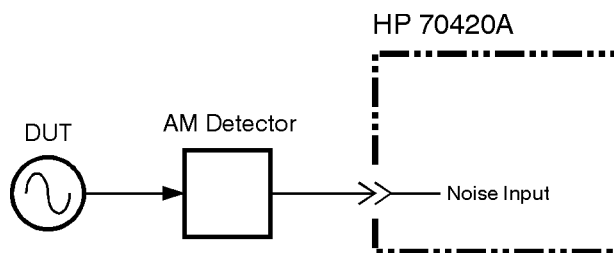
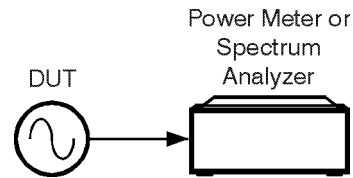

Figure 12-6 User Entry of Phase Detector Constant AM Noise Measurement Setup Method 1, Example 1
Figure 12-7 AM Noise Calibration Setup
- 1 Using information shown in Figure 12-6 and Figure 12-7, Connect the circuit and tighten all connections. If the Agilent 70420A Option 001 or Agilent 70427A is available, use one of the connection diagrams described in “AM Noise Measurement Block Diagrams” on page 12-3.
- 2 Measure the power which will be applied to the AM detector (see Figure 12-7). It must be between 0 and +23 dBm.